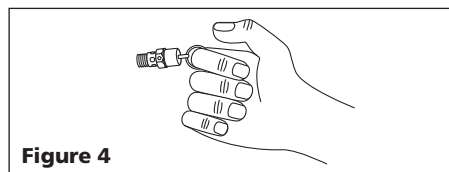

Figure 4
2. Wearing safety glasses, pull the ring on the safety valve (see Figure 4) to release pressure from compressor tank. Use your other hand to deflect fast-moving air from being directed toward your face.
2. Pull ring on safety valve and allow it to snap back to normal position (Figure 4).